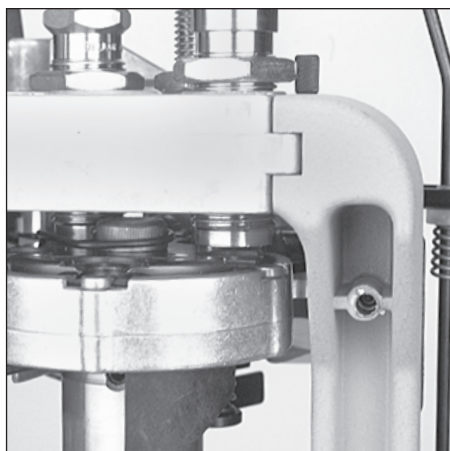

FIG 54
2. Raise the platform and screw the powder check die into Station 3. There should be a 1/8 to 1/4 inch space between the shellplate and the bottom of the die FIG 54.